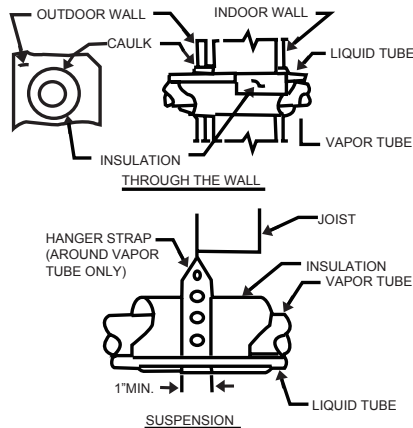

Fig.5 – Connecting Tubing Installation
- 5). When passing refrigerant tubes through the wall, seal opening with RTV or other pliable silicon--based caulk.(See Fig. 5.)
- 7). Do not suspend refrigerant tubing from joists and studs with a rigid wire or strap which comes in direct contact with tubing. (See Fig. 5.)
- 9). When necessary, use hanger straps which are 1 in. wide and conform to shape of tubing insulation. (See Fig. 5.)